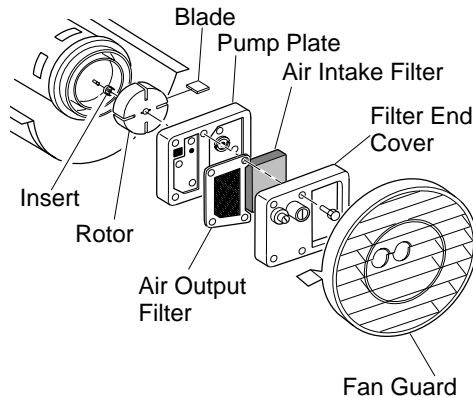

Figure 18 - Rotor Location
3. Remove filter end cover and air filters (see Figure 18).